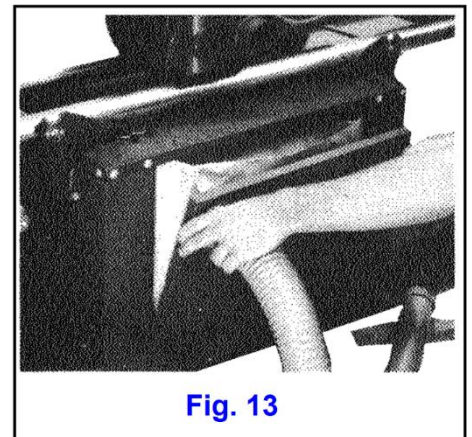

Fig. 13
10. **Install rear panel.** Unfold sawdust vacuum bag and lay it on inside of rear panel so that bag matches panel and inlet tube of bag lines up with large flanged hole in panel. Tuck tube about one inch through hole and spread it so that one end of the short hose can be inserted. Make sure bag is still square with panel and secure it by pushing hose adapter into panel hole, thereby sealing hose to bag tube. Mount rear panel with hose at upper left corner, (Fig. 13) using the two #6 plastic head thumb screws and Tinnerman nuts. Rest bottom of bag on rear rail.